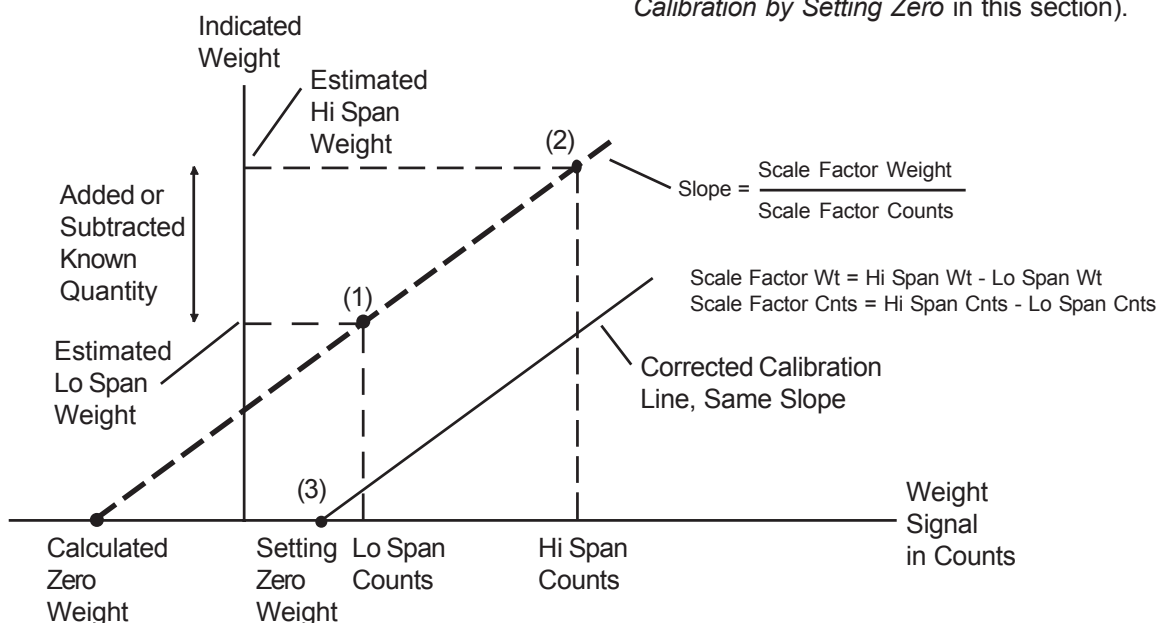

Figure 6-3. Calibration by Adding or Subtracting a Known Quantity of Material
A value estimated to be the quantity of material in the vessel is entered as the Lo Span value [point (1) in Figure 6-3]. A known quantity of material, representing at least 25% of the vessel's total capacity, is added to the vessel. The sum of the known quantity plus the estimated quantity is entered as the Hi Span value [point (2) in Figure 6-3]. The Weigh II saves in memory the Lo and Hi Span weights as well as the digital counts associated with each weight. These values define the dashed straight line and the calculated zero weight shown in Figure 6-3. The slope of the line is called the Scale Factor, which is calculated internally.
The slope of the line is reasonably accurate, because it is calculated based on the known difference between the Lo Span and Hi Span weights and counts. However, if the estimated Lo Span value is incorrect, the actual "location" of the line is incorrect, resulting in errors in vessel monitoring. The greater the error in the estimated Lo Span, the greater the resulting error. The "location" of the line can be adjusted to the solid line by setting zero [point (3) in Figure 6-3] (see *Refining the Calibration by Setting Zero* in this section).
7. Use the keypad or the Up and Down Arrow Keys to input a value that represents the estimated quantity of material in the vessel as the *LoSpan* value. Press the Enter Key to save the value in memory. *Lo Span* is now set [point (1) in Figure 6-3]. The display flashes a message acknowledging your selection and returns to: